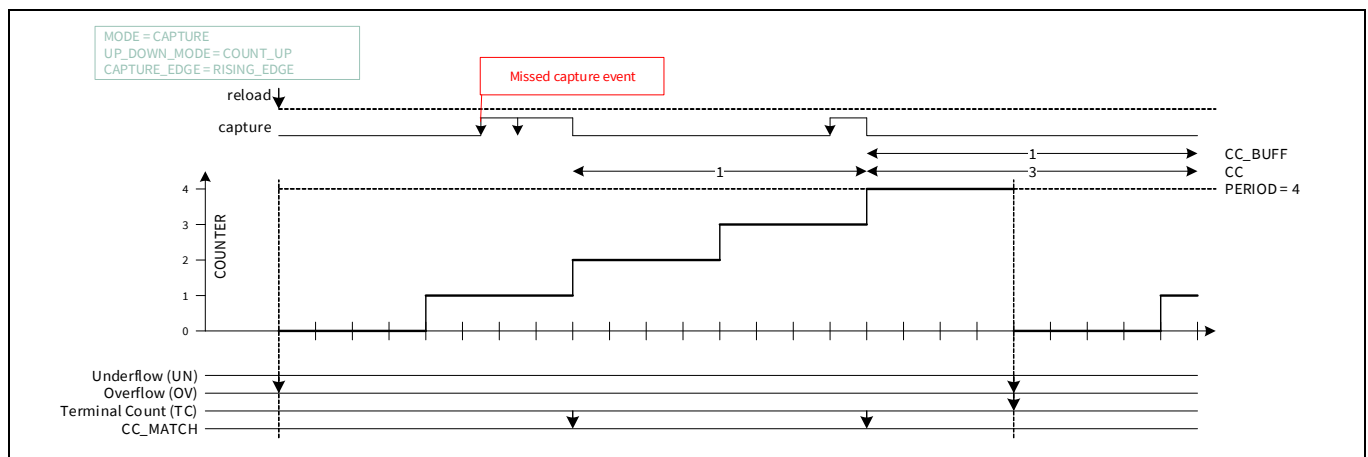

Figure 28-3. Multiple rising edge capture
- In the rising edge and falling edge modes, multiple events are effectively reduced to a single event. As a result, events may be lost (see Figure 28-3).